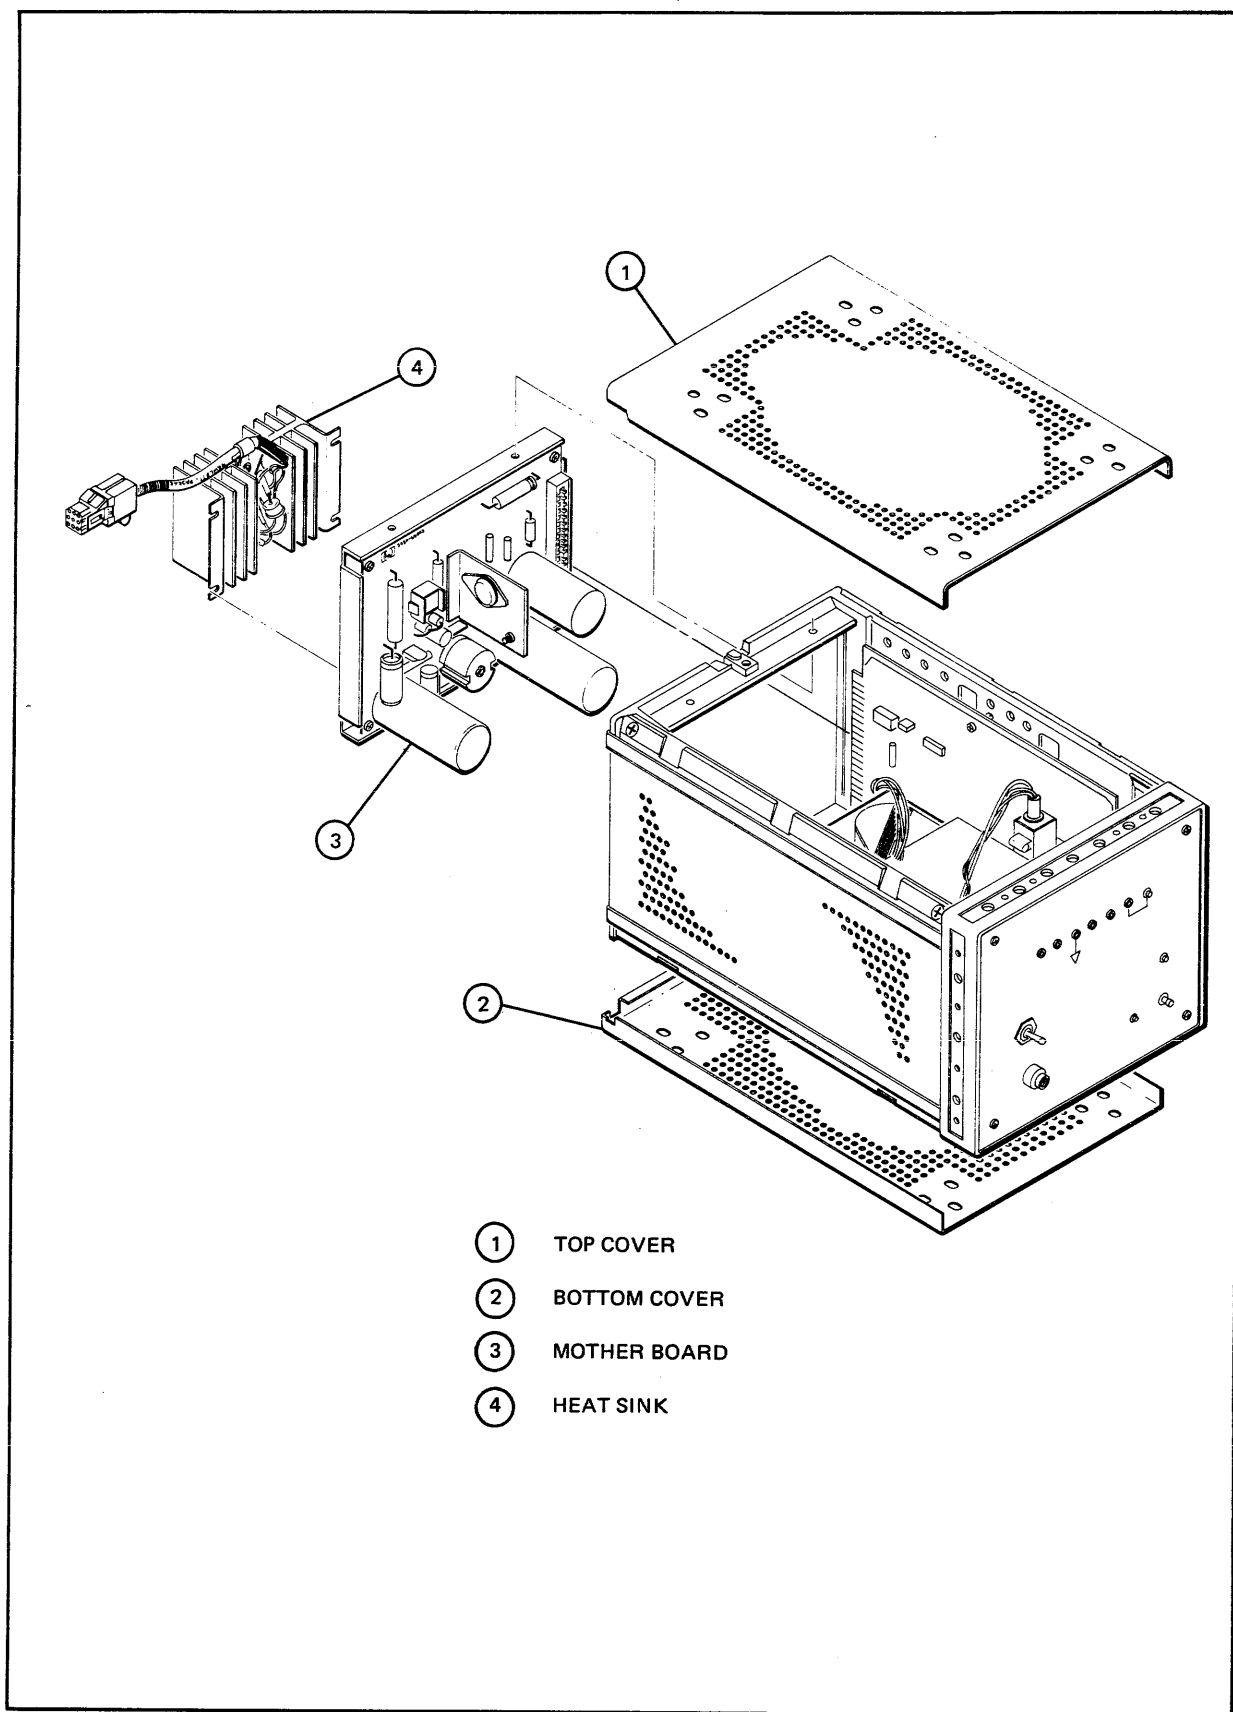

Figure 1. Power Supply Modification
This modification replaces the mother board and control board in an HP 30311A Power Supply if date code is less than 1822. If no modification is necessary, return both the mother boards and the control boards shipped in the kit and skip this procedure. Repeat the procedure for systems having two HP 30311A Power Supplies. If system has but one HP 30311A, return one each Mother board and control board furnished in the HP 30417A Upgrade kit as well as the mother board and control board replaced in these steps. Figure 1 is provided as reference.
4. Install new CPU backplane PCA 30003-60029 using hardware saved. Restore power harness connections. See figure 1. DO NOT TIGHTEN BACKPLANE HARDWARE. CARD CAGE BACKPLANE HARDWARE MUST BE SNUG BUT MOVABLE FOR ALIGNMENT.